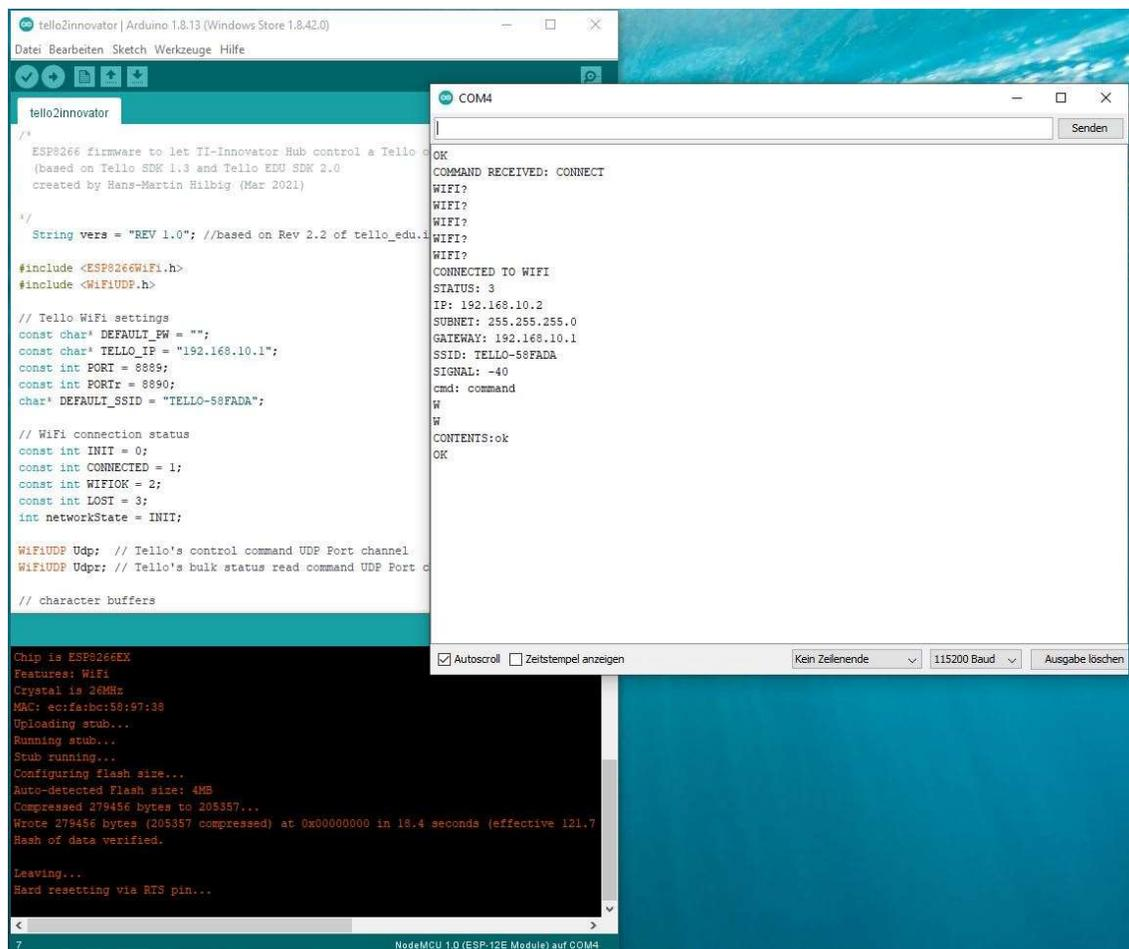

Figure 5 Arduino IDE with tello2innovator.ino file and serial monitor open
- d. CONNECT <enter>. NodeMCU will try to establish a connection with your Tello drone. You should see a couple of 'WIFI?' lines on the serial monitor window, before NodeMCU prints out all WiFi data like shown in figure 5.